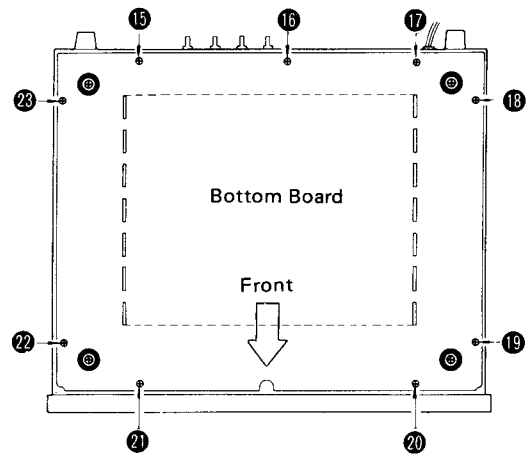

Fig. 3
Remove the 9 setscrews. ( ⑮ ~ ⑳ in fig. 3)